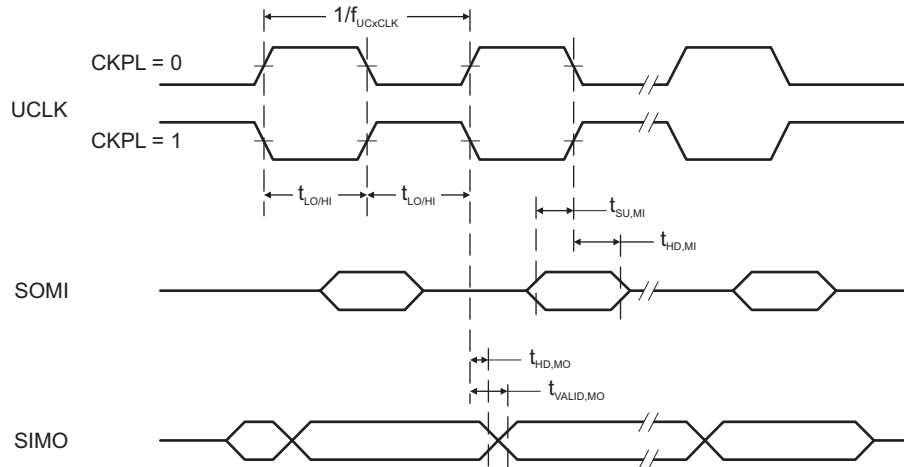
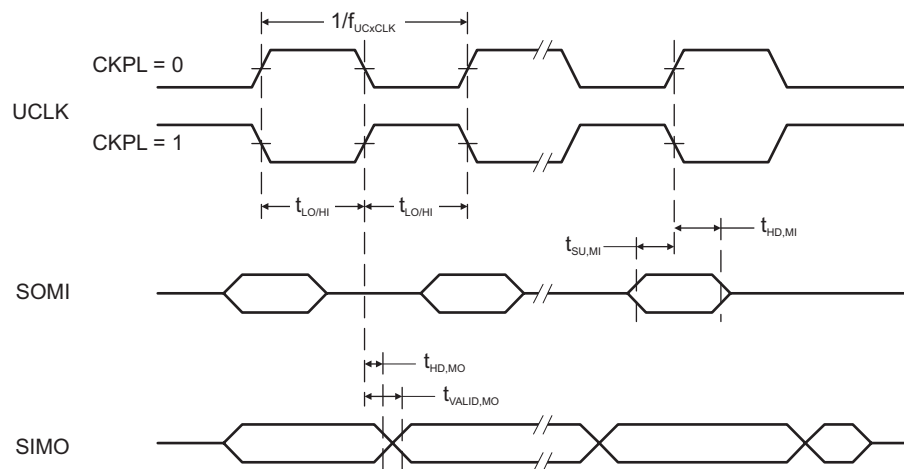

Figure 5-14. SPI Master Mode, CKPH = 0
Figure 5-15. SPI Master Mode, CKPH = 1
over recommended ranges of supply voltage and operating free-air temperature (unless otherwise noted)⁽¹⁾ (see Figure 5-14 and Figure 5-15)
- (2) Specifies the time to drive the next valid data to the SIMO output after the output changing UCLK clock edge. See the timing diagrams in Figure 5-14 and Figure 5-15.
- (3) Specifies how long data on the SIMO output is valid after the output changing UCLK clock edge. Negative values indicate that the data on the SIMO output can become invalid before the output changing clock edge observed on UCLK. See the timing diagrams in Figure 5-14 and Figure 5-15.